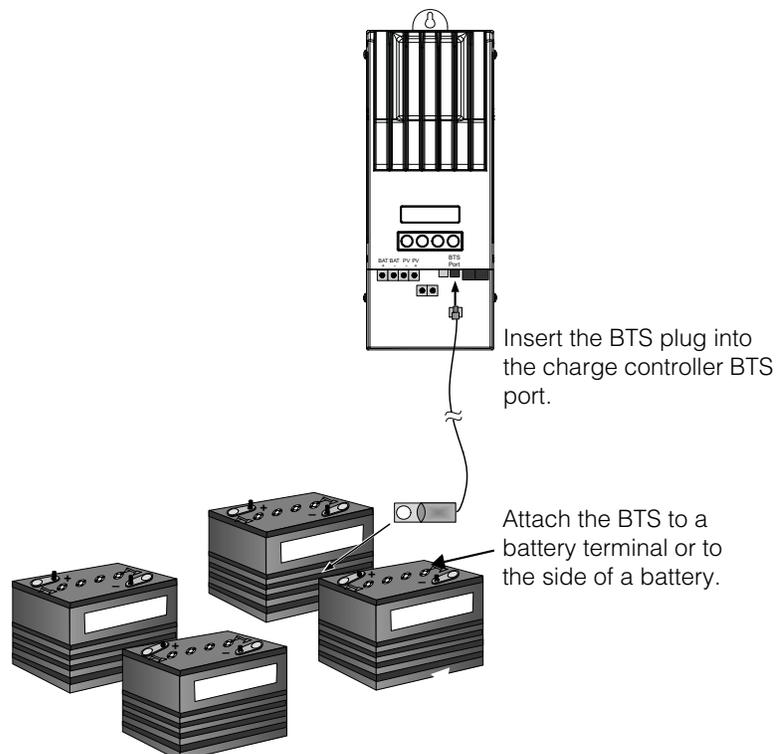

Figure 2-16 Installing the BTS
4. Pass the end of the BTS cable through a conduit hole on the charge controller and insert the BTS plug into the BTS port. See Figure 2-16.